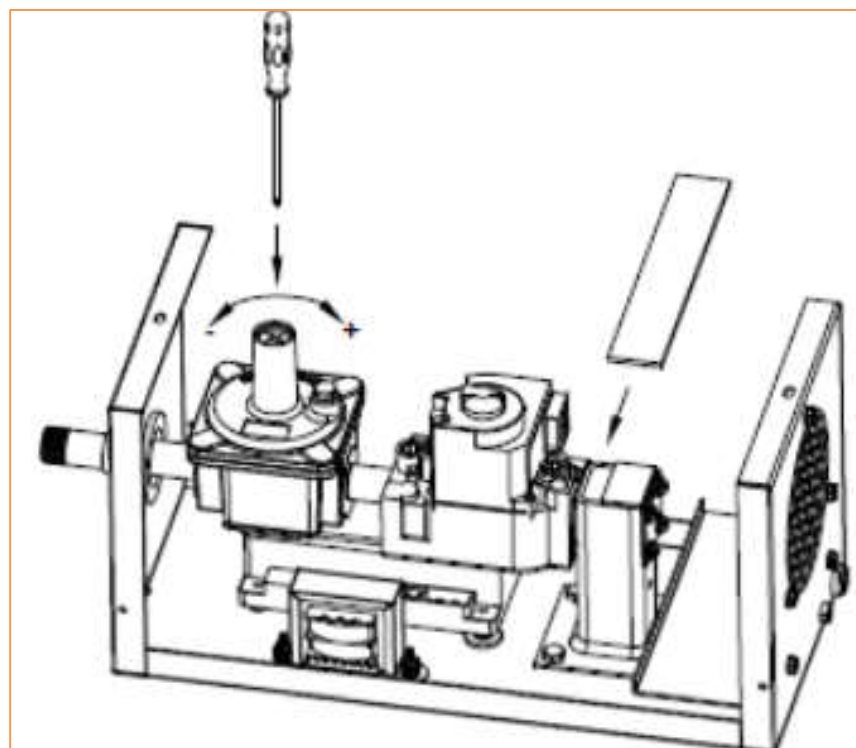

Figure 52: Adjustment of Maxitrol Zero Regulator
4. If your burner will not stay lit or will intermittently light you may need to adjust the Zero Regulator. Refer to Figure 52 and the following sequence.
NOTE: The Honeywell gas valve is screwed into a square mixing chamber as seen in Figure 52. On the opposite side of the mixing chamber our air plate is screwed on.